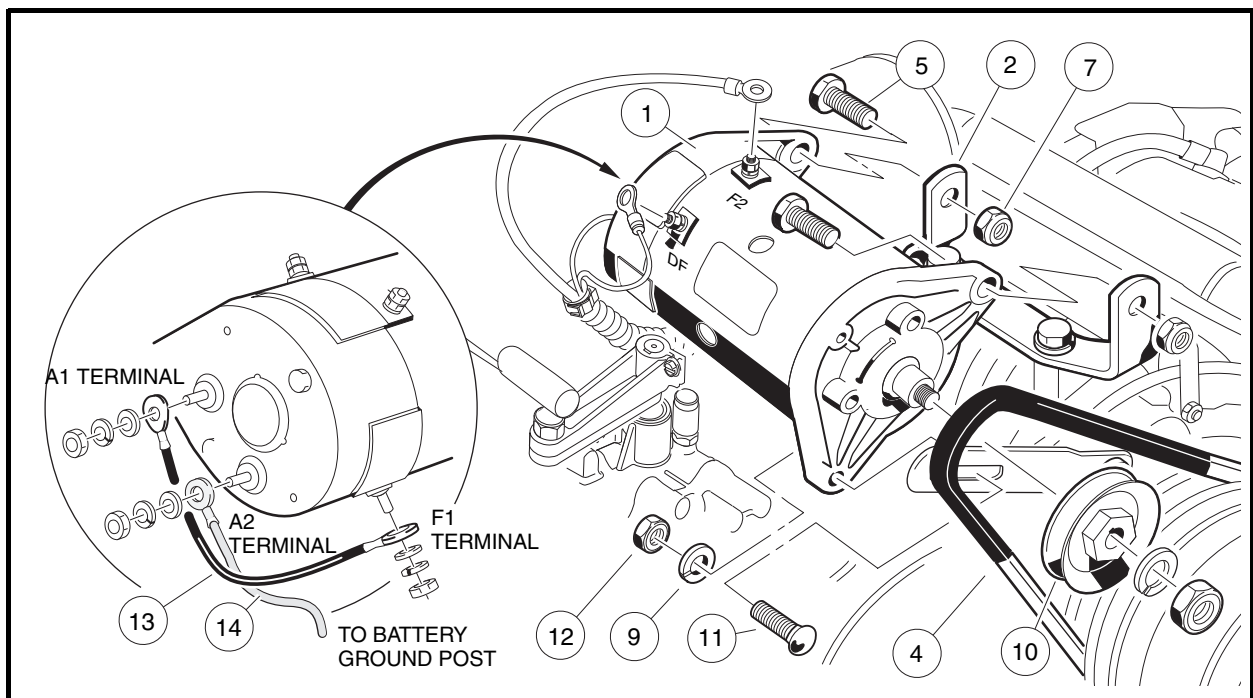

Figure 12-1 Starter/Generator Mounting
2. Mark and disconnect the wires from the starter/generator (1). Loosen the two pivot nuts (7) and bolts (5) (Figure 12-1, Page 12-1).